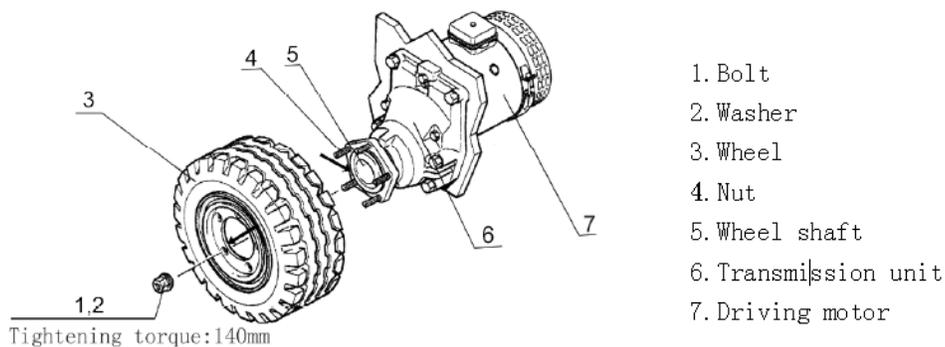

Figure 1-10
(1) Clean mating surfaces on wheel shaft and wheel thoroughly and check if it is damaged.
(2) The bore pattern in the rim should be in line with the bolts of the wheel shaft; then push the wheel on.
(3) Install hub nuts and tighten them. The tightening torque of it is 140Nm. (See figure1-10)